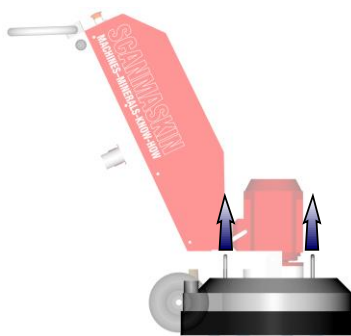

Figure 3-2 Lifting points SC-450 NS
- Fasten the straps used for lifting at the two handles as shown in “Lifting points SC-450 Figure 3-2”.